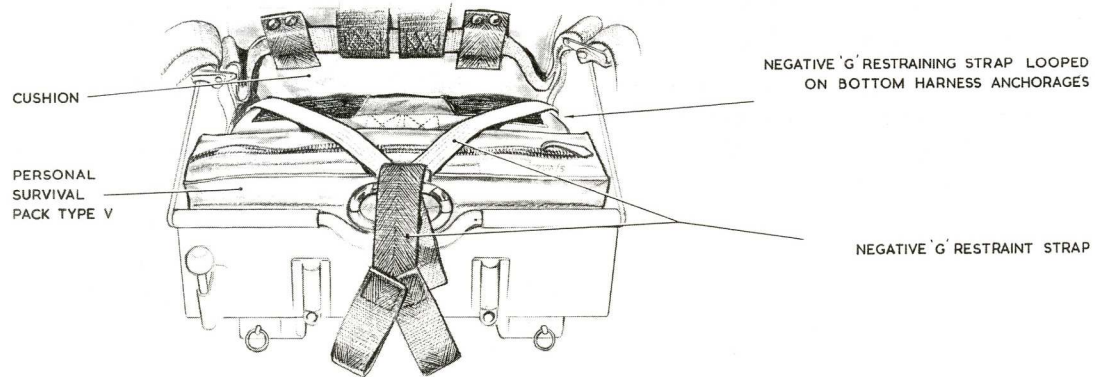

Fig. 3. Arrangement of negative 'G' restraining strap on P.S.P
(5) Fig.3. Arrangement of negative-G restraining strap on P.S.P Disregard Fig. 3 in Chapter 1 and refer to Fig. 1 of this addendum.